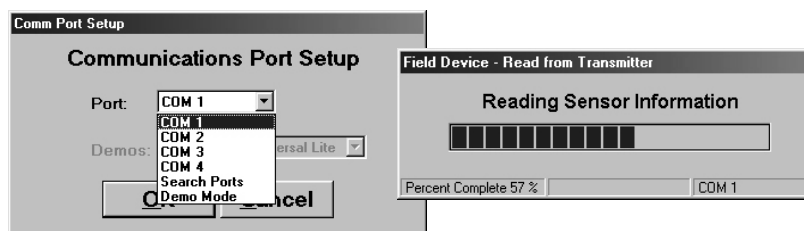

Figure 3-2
- B. Select communication port [Com 1, Com 2, etc.] and then click "OK." **"Figure 3-2"**.